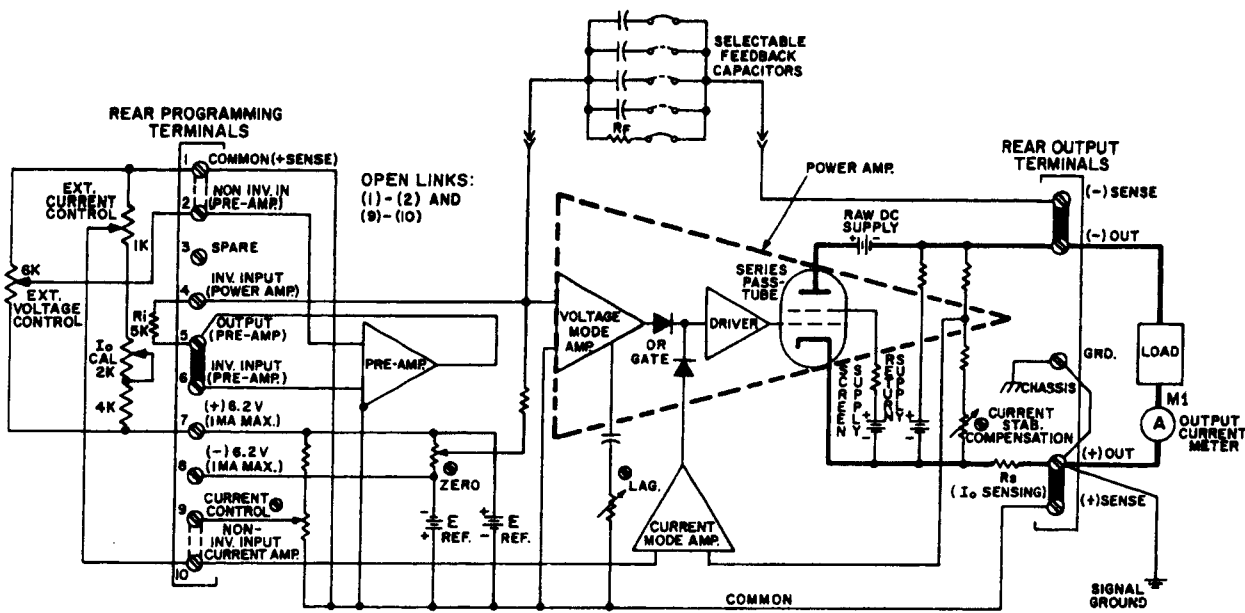

FIG. 3-13 CONNECTIONS FOR OUTPUT CURRENT CONTROL, USING AN EXTERNAL POTENTIOMETER.
- 2) Refer to FIG. 3-13. Connect all external components as shown. Turn OPS "on." Adjust the EXTERNAL VOLTAGE CONTROL to the required load compliance voltage. Adjust the EXTERNAL CURRENT CONTROL to the position yielding the minimum output current.